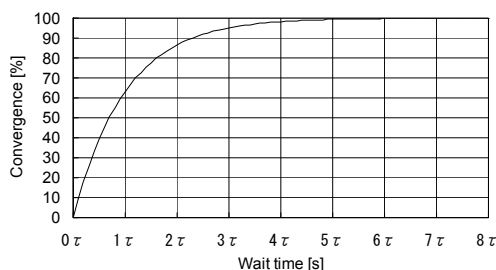

Fig.66 Wait time and convergence (Reference)
This charge time constant becomes the following formula (3) by using the input coupling capacitor and the input impedance. And the calculation value of the convergence to the wait time is indicated in Fig.66.